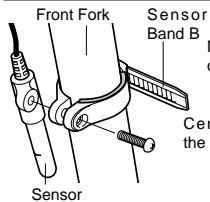

Fig. 10
2. Mount the adjusted bands to the fork along with the sensor, by temporarily tightening the screw (Fig. 10).